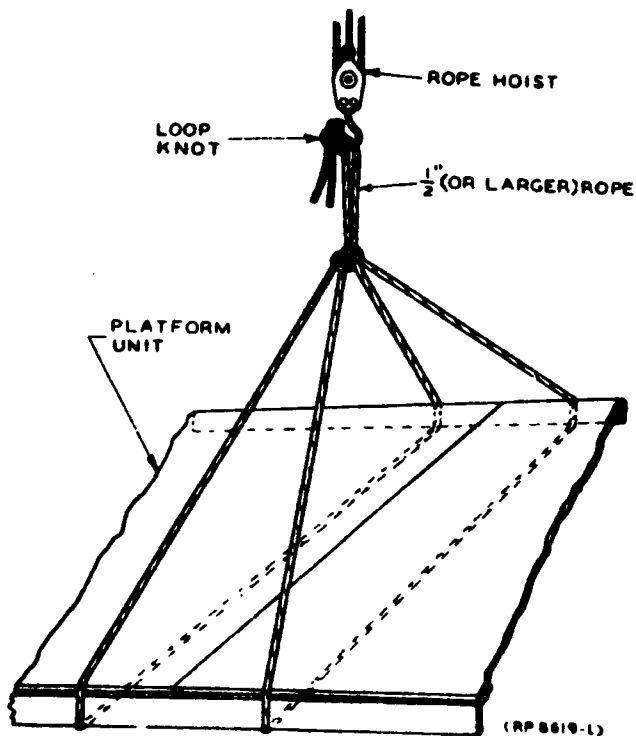

FIG. 2 HOISTING PLATFORM UNIT
(See Fig. 2)      hoisting platform units)
6.2 Hoist the unit as shown in Figure 2.
8.2 Hoist the unit as shown in Figure 2.